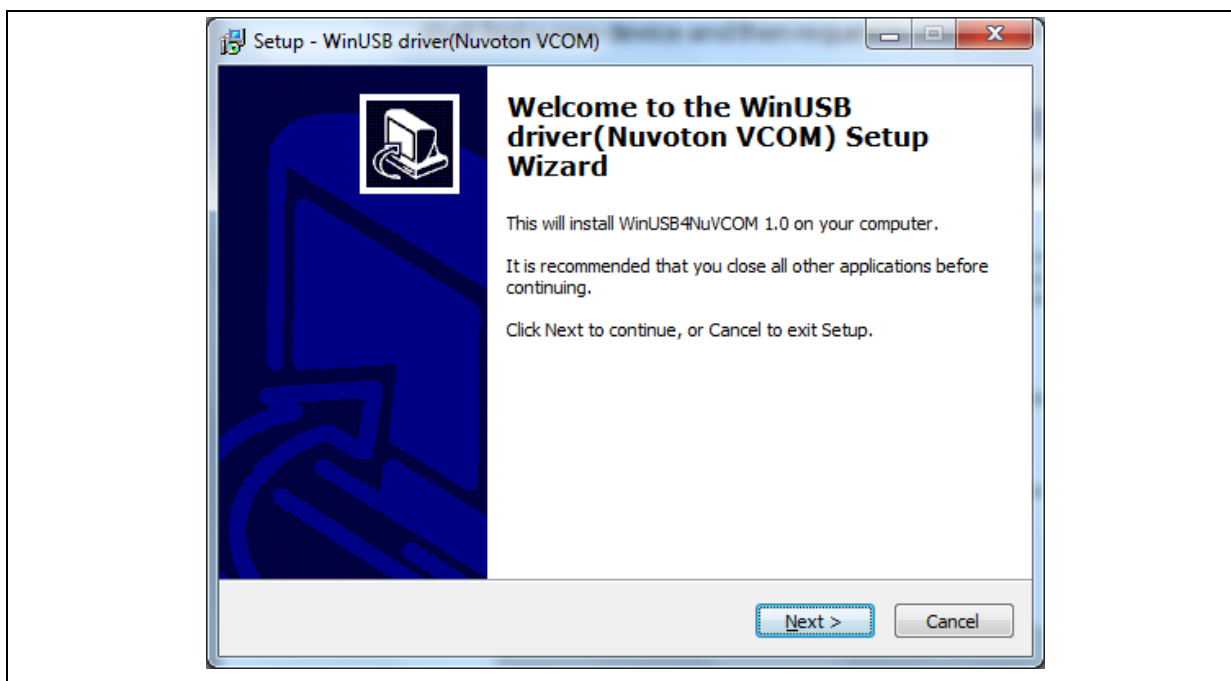

Figure 2-1 WinUSB4NuVCOM Driver Setup (1)
Step 1: After connecting the computer and the MA35D1 through USB cable, after turning on the power of the MA35D1, Windows will find a new USB device, and select the executable file *WinUSB4NuVCOM.exe* on the computer to start installing the driver. (Figure 2-1)